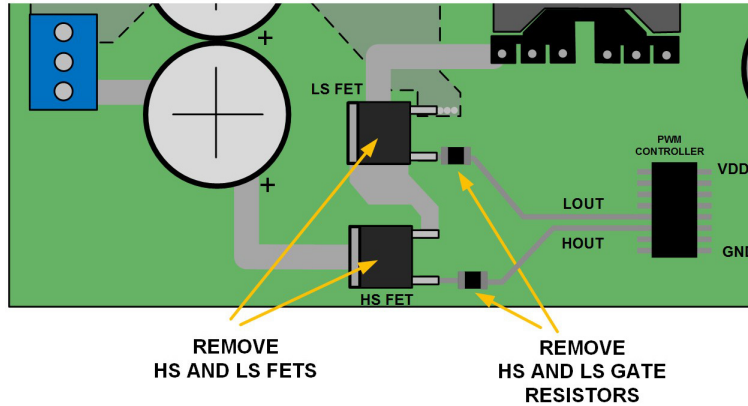

Figure 9. Power Board Preparation
1. Remove HS and LS MOSFETs and HS and LS gate drive resistors from the power board as illustrated in Figure 9.